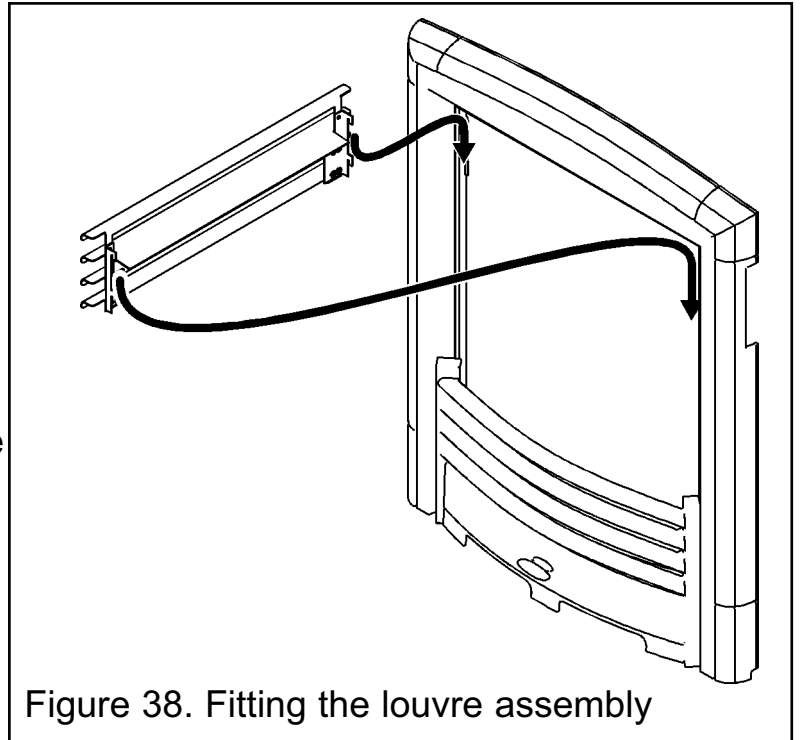

Figure 38. Fitting the louvre assembly
1. Locate the louvre assembly onto the brackets at the top of the fascia casting (See figure 38).